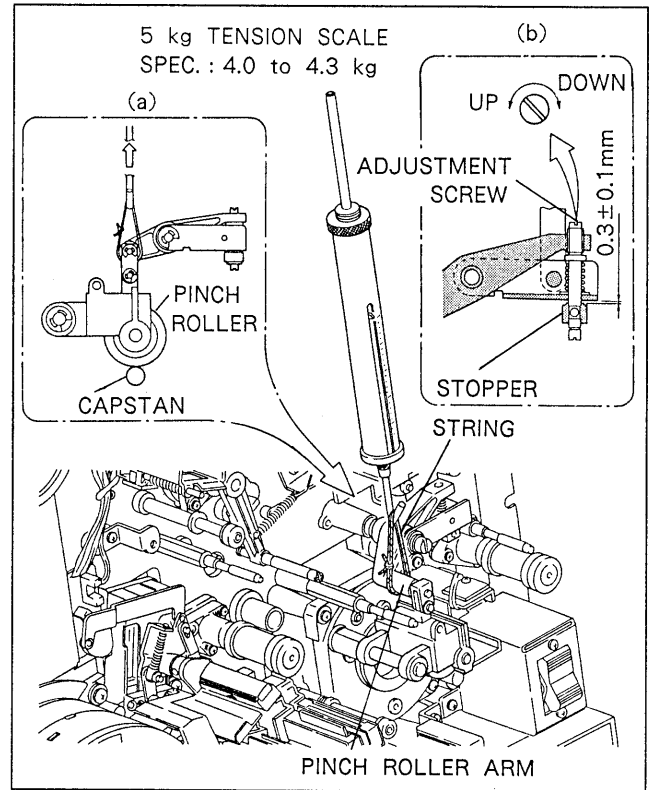

Fig. 6-10-2. Pinch Roller Pressure Adjustment
14. Attach the max. 5 kg tension scale to the pinch roller arm, as shown in Fig. 6-10-2. Stretch the tension scale in the direction which connects the pinch roller and capstan, as shown by the arrow in detail figure (a) and wait until the pinch roller moves free from the capstan and the pinch roller stops rotating. Return the tension scale in the capstan direction and check that the value indicated on the scale is 4.0 through 4.3 kg when the pinch roller starts to rotate again. If this value is not satisfied, perform the following adjustments.